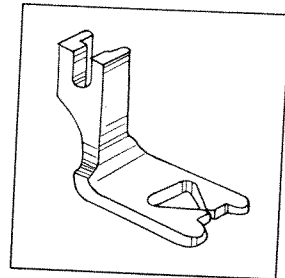

Fig. 31
- (1) Replace presser foot with the special purpose buttonhole foot, it provides maximum visibility and allows closely spaced stitches to feed evenly.(Fig.31)